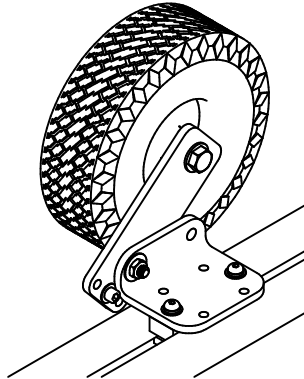
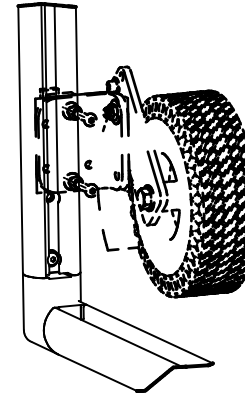

FIGURE C-1
FIGURE C-2
1. If optional wheel kit is included, assemble all four wheel kits as shown in Figure C-1, each kit can make a right or left depending on hardware placement. Ensure there are two of each, and install on the frame legs using the previously installed nutbars as shown in Figure C-2. **DO NOT COVER THE THREADED HOLES FOR THE CORNER FITTINGS.**